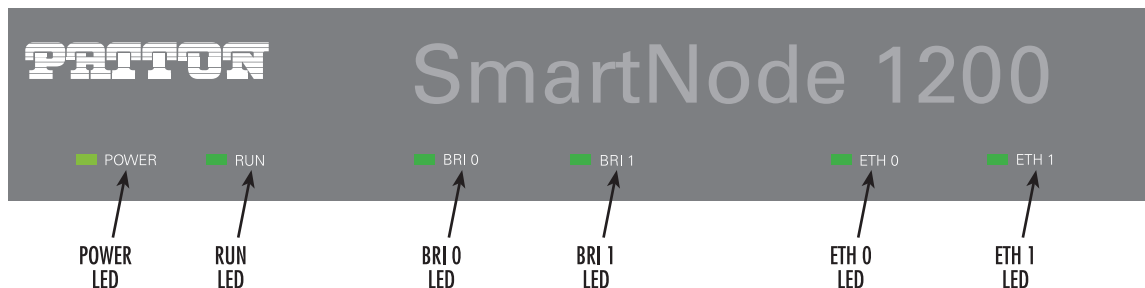

Figure 45. SmartNode 1200 front panel LEDs
4. Verify that the green *Power* LED is lit (see figure 45).